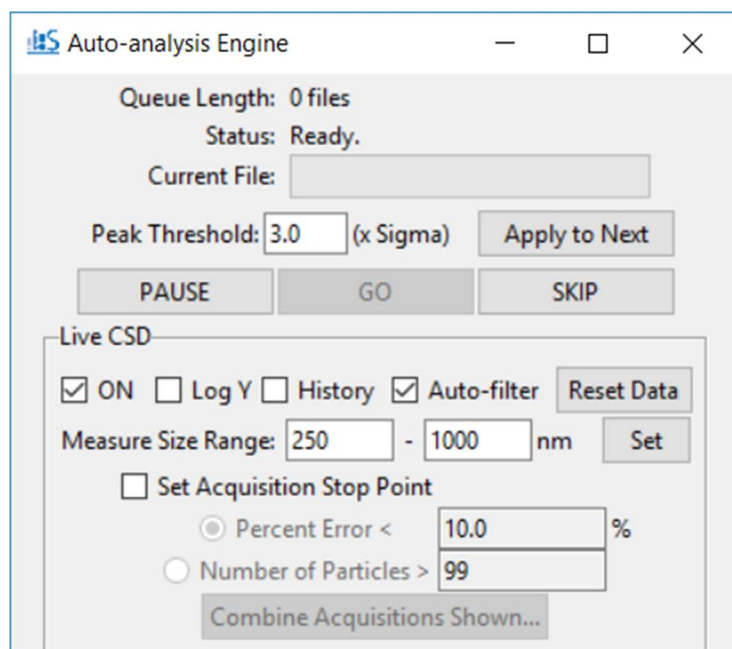

Figure 12. Auto-analysis Engine Interface.
- Display Options (see Figure 12. Auto-analysis Engine Interface.):